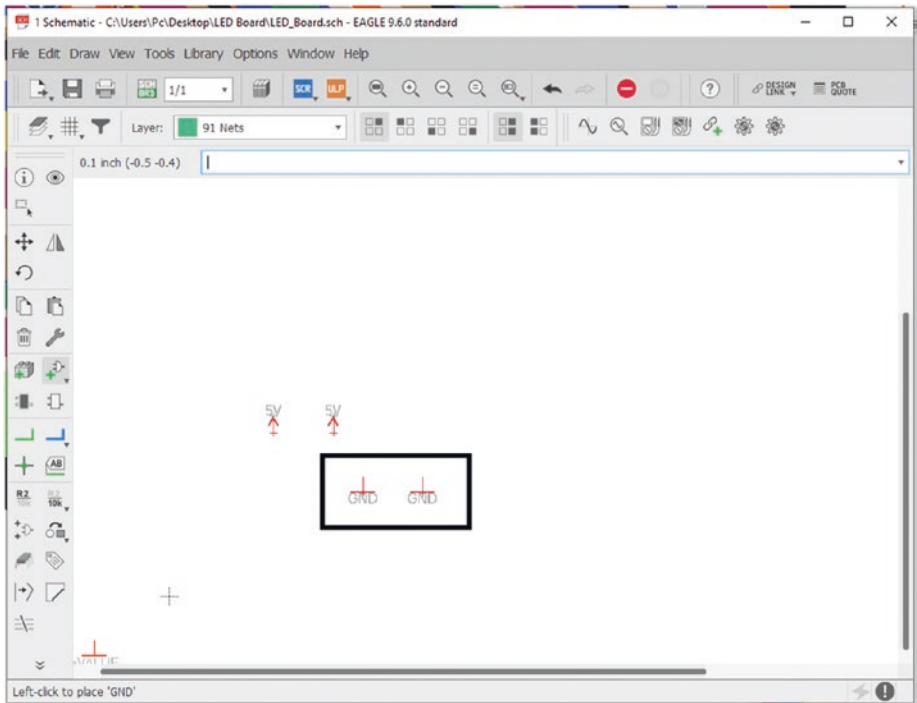

Figure 5-22. Add GND symbols to the schematic window
- 9. Add two “GND” symbols to the schematic window, just as you did with the “5V” symbol. See Figure 5-22.